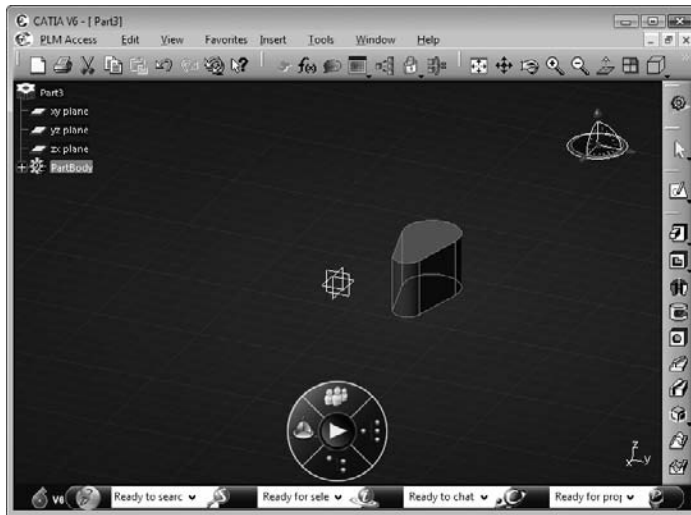

FIGURE 4.9
12. Repeat steps 2 to 10 to create the third component for the assembly that can fit into the second empty portion of the **Part1** component, as shown in **Figure 4.9**: